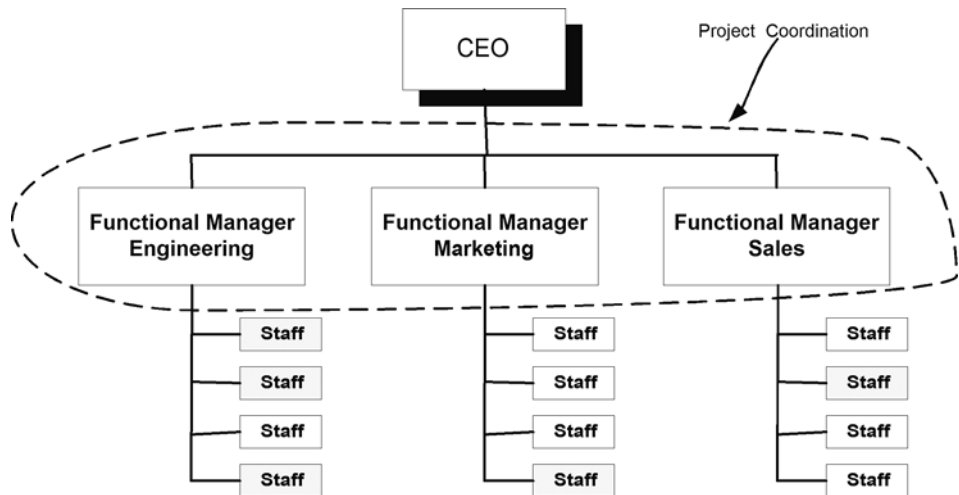

FIGURE 1.3 Structure of a functional organization. Gray boxes represent staff involved in a project.
A functional organization has a traditional organizational structure in which each functional department, such as engineering, marketing, and sales, is a separate entity. As shown in Figure 1.3, the members of each department (staff) report to the functional manager of that department, and the functional manager in turn reports to an executive, such as the chief executive officer (CEO). Depending on the size of the organization, there could be a hierarchy within the functional managers—for example, directors of engineering, QA, and IT operations reporting to the vice president (VP) of engineering, who in turn reports to the CEO.